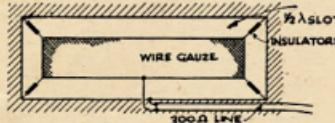

Fig. 1.—"Folded" Slot Aerial.
- When a slot is "folded," as shown in Fig. 1, a good match will be obtained with 300 ohm ribbon, the centre impedance being about 250 ohms.
It will be necessary, of course, to arrange for supporting insulation material to hold the insert metal section in position. As drawn in Fig. 1, this "folded" slot would radiate vertically polarised waves. It would need therefore for VK 144 Mc. practice, to be erected vertically in order to deal effectively with horizontal polarisation requirements.